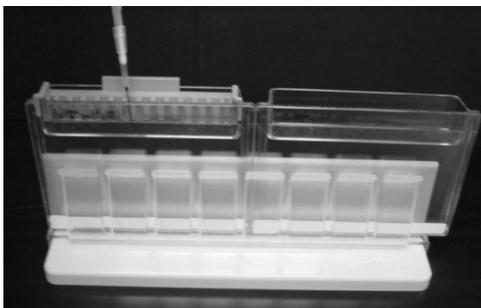

Fig. 3.4. Loading a Criterion gel using a sample loading guide in the single-row AnyGel stand.
3. Load the sample in each well using sample loading tips (Figure 3.4).